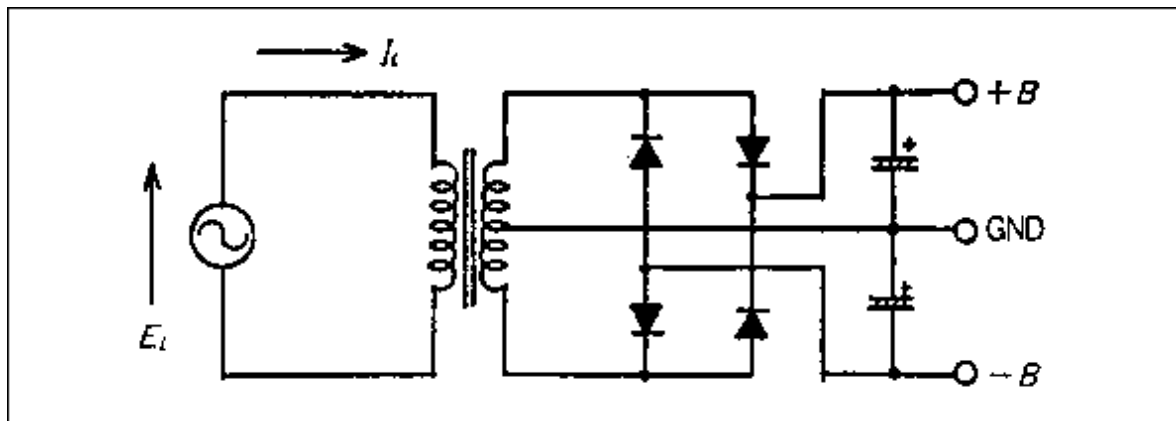

Fig. 1: Power current transformer, rectifiers and capacitors.
The most common mounting, as seen in Figure 1 consists of a transformer (EI, C. Double C, torus, etc..) With a primary, a secondary midpoint of a rectifier bridge with silicon diodes and filtering capacitors. To better withstand variations primary and secondary transformer should be oversized filter capacitors to be of relatively high value. In this condition already more favorable, the diodes, the transformer, the fuse must be able to support the load current of the capacitor at the time of power up. If already, you are limited by the cost, footprint, we can do no wrong to a compromise. In terms of performance is limited by the loss brought by the diodes, the windings of the transformer, by volume, the magnetic characteristics of the sheets. For a current transformer, the calculations of maximum induction (B_m) of magnetic loss in the sheets (P) and the loss in the windings (P_c) are performed as follows: